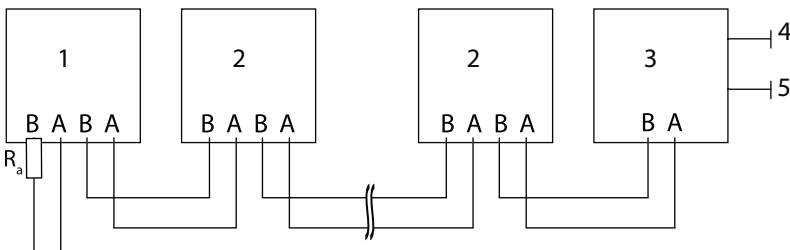

Figure 17: RS485 interface wiring diagram
- Wire B (+) to wire B (+) (see Figure 17 on page 24)